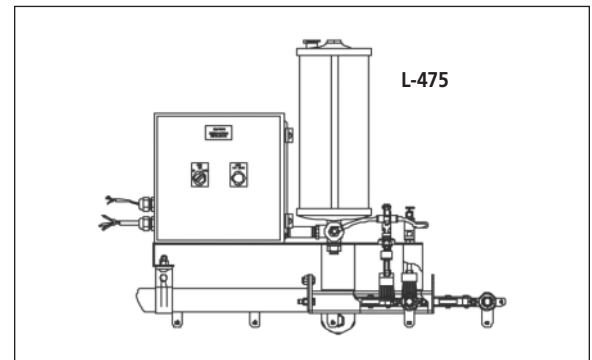

Figure 18
- Shot or mist lubricators are recommended for long systems operating through ovens in excess of 200°F. **Pacline** model L-375 and L-565 can be used in these applications. (See **Figures 18 and 19**)